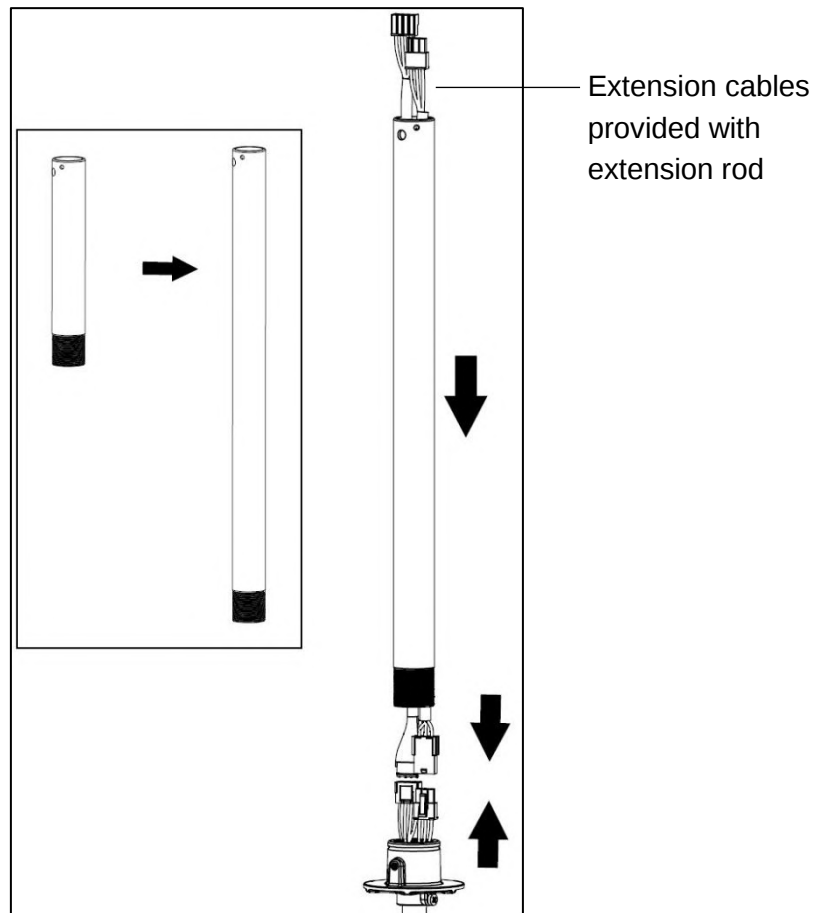

Fig. 9.2
2. Replace the original down rod with the extended one. Connect the extended cable (provided with the extension rod) to the wiring of the fan assembly (Fig. 9.2)